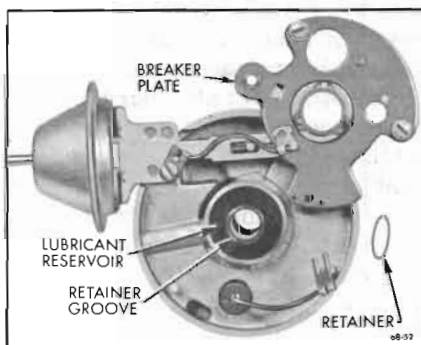

Figure 68-52—Installing Breaker Plate and Retainer
2. Install felt washer over upper bushing and apply a few drops of light oil. Then place breaker plate over upper bushing and vacuum advance link. Install retainer on upper bushing. See Figure 68-52.